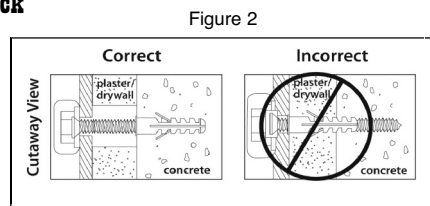

Figure 2
- Pre-drill holes into concrete using 5/16" drill bits. Insert concrete wall anchors (Q) and tap in with hammer, if necessary (Figure 2).